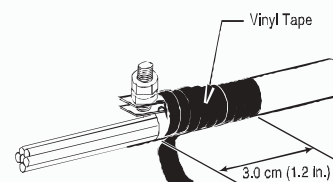

Figure 7
9.4 Armored cable (metallic cable sheath) should be grounded using a ground clamp (Figure 7).